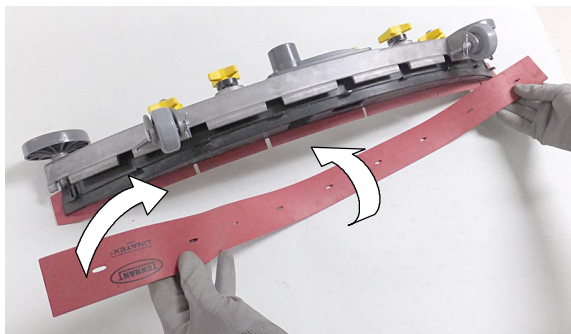

FIG. 125
4. Rotate the rear blade to a new wiping edge (Figure 125). Make sure to align the slots in the blade with retainer tabs.